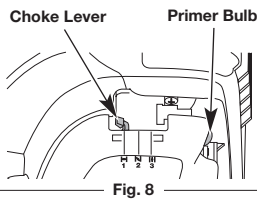
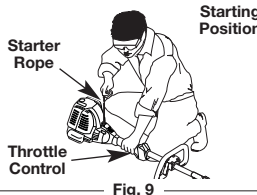

Fig. 8
Fig. 9
WARNING: Avoid accidental starting. Make sure you are in the starting position when pulling the starter rope (Fig. 9). To avoid serious injury, the operator and unit must be in a stable position while starting. Make sure that any Add-On item is installed correctly and secure before starting the unit.
3. Fully press and release the primer bulb **10** times, slowly. Some amount of fuel should be visible in the primer bulb (Fig. 8). If fuel cannot be seen in the bulb, press and release the bulb until fuel is visible.
4. Move the choke lever to **Position 1** (Fig. 8).
5. Crouch in the starting position (Fig. 9).
6. **Continue to squeeze the throttle control.** Move the choke lever to **Position 2** (Fig. 8).
9. **Continue to squeeze the throttle control.** Move the choke lever to **Position 3** (Fig. 8).
5. Crouch in the starting position (Fig. 9). Place the electric starter or Power Start Bit™ into the back of the unit (Fig. 37). Refer to the *Operation* section of the Electric Starter or Power Start Bit™ operator's manual.
6. **SQUEEZE and HOLD the throttle control for ALL further steps.** Press and hold the electric starter or drill ON (I) button for 2 seconds.
7. **Continue to squeeze the throttle control.** Move the choke lever to **Position 2** (Fig. 8).
8. **Continue to squeeze the throttle control.** Press and hold the electric starter or drill ON (I) button for 2-second intervals until the unit starts.
11. **Continue to squeeze the throttle control.** Move the choke lever to **Position 3** (Fig. 8).